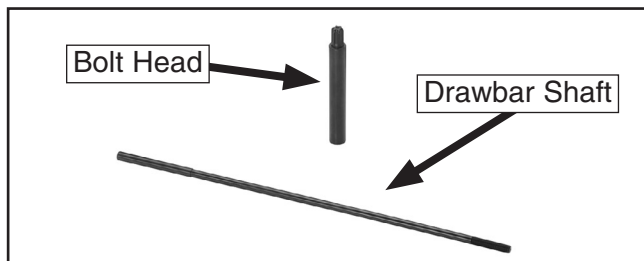

Figure 3. Bolt head and drawbar shaft.
1. Use a caliper to measure the diameter of your mill's drawbar bolt head (see **Figure 3**).